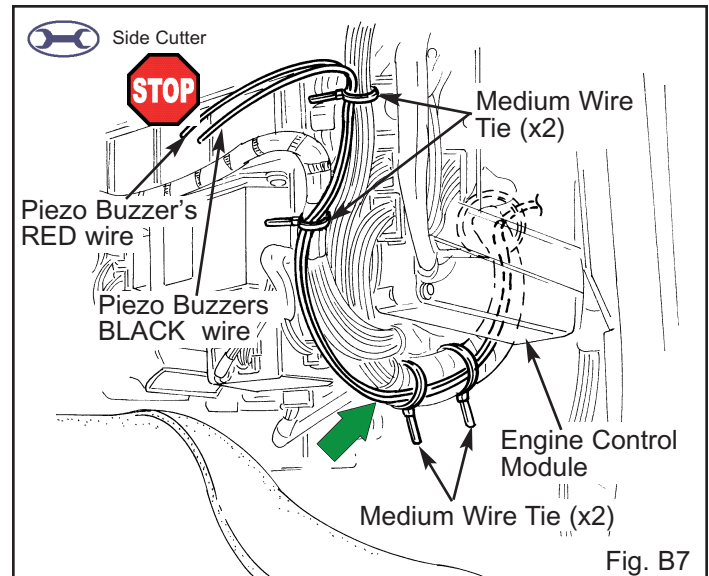

Fig. B7
- ➔ 10. Route the Piezo Buzzer's wires up toward the dash, then secure it to the vehicle's harness with four medium wire ties. (Fig. B7)